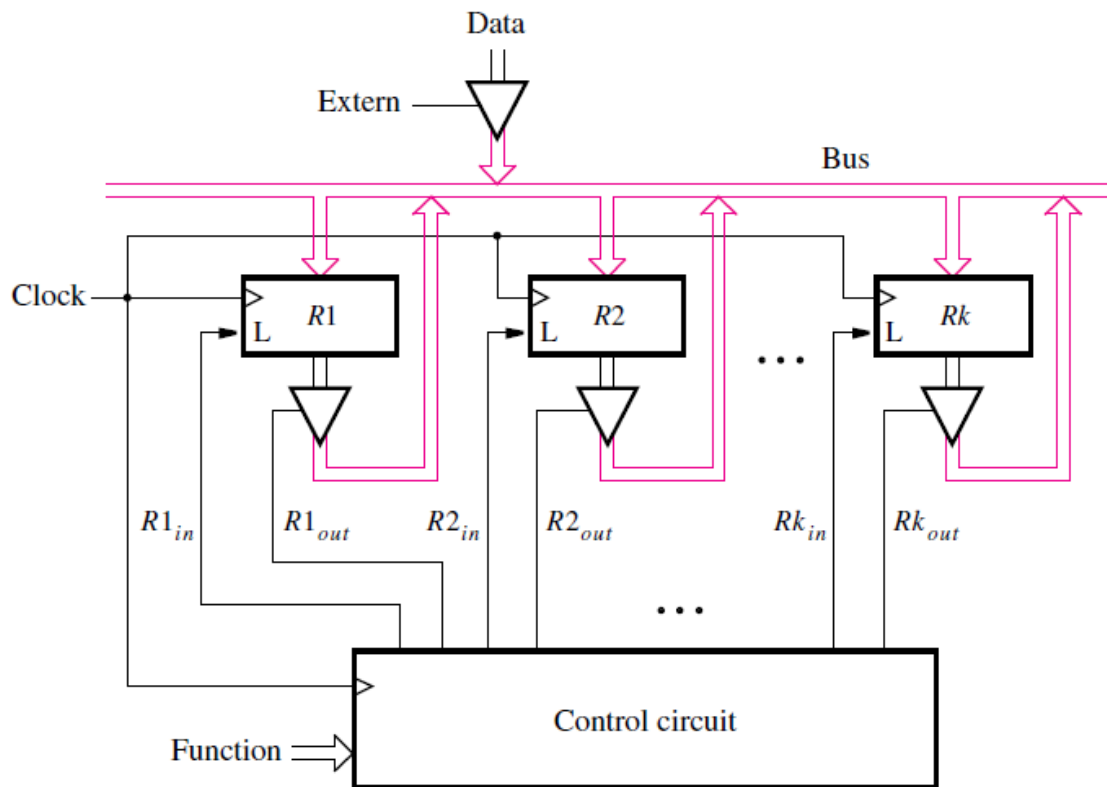

Fig 12.1 A digital system with k registers.
- Consider a system that contains k n-bit registers, R1 to Rk. Figure 12.1 shows how these registers can be connected using tri-state drivers to implement the bus structure. The data outputs of each register are connected to tri-state drivers. When selected by their enable signals, the drivers place the contents of the corresponding register onto the bus wires. The enable signals are generated by a control circuit.
- In general, the control circuit could perform a number of functions, such as transferring the data stored in one register into another register and controlling the processing of data in various functional units of the system. Figure 12.1 shows an input signal named Function